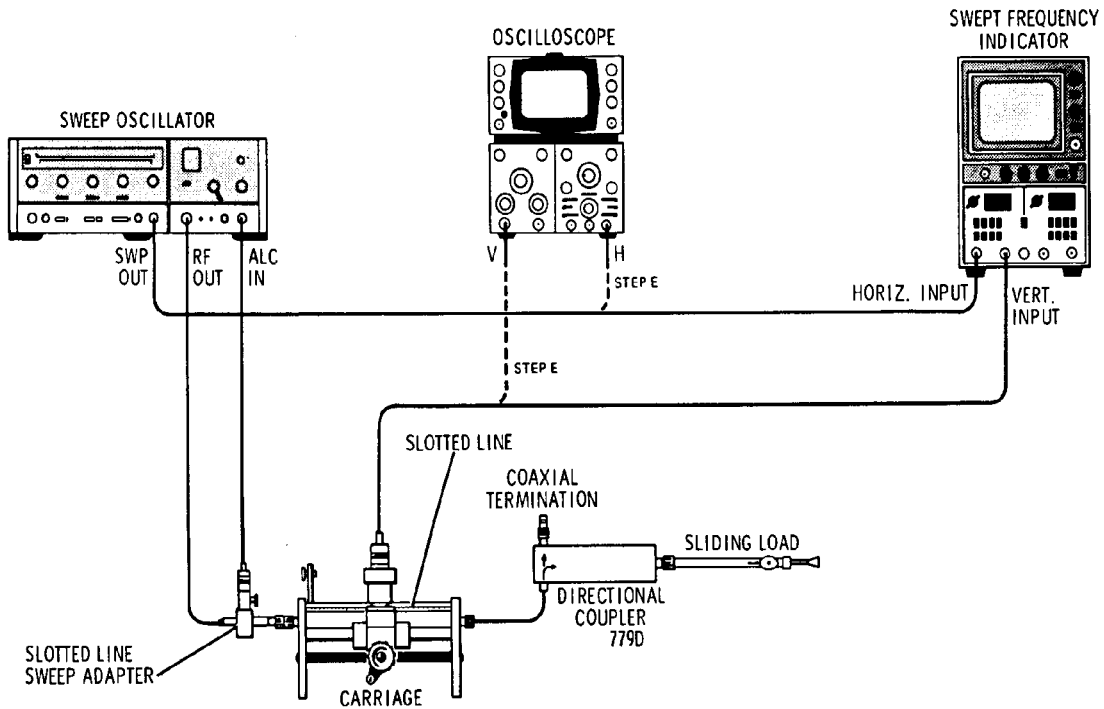

Figure 11 SWR Test Setup
Description Refer to Figure 11 for Test Setup and Table 7 for Test Equipment.
1. Connect the equipment as shown in Figure 11.